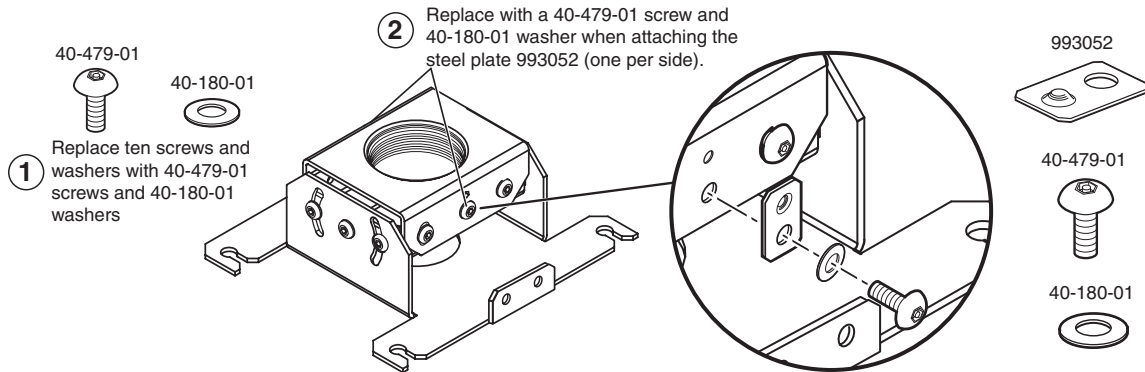

Figure 2 Steps 1-2 for installing security screws on the UPB 25 adapter plate
1. Using ten 40-479-01 screws and ten 40-180-01 black washers, replace all the existing screws, with the exception of the two center pivot screws located below the set screw access point (see figure 2, ①).
2. Attach one of the cover plates 993052, at the pivot point below the set screw access point (see figure 2, ②), replacing the original screw with a 40-479-01 screw and a 40-180-01 washer. Do not tighten these screws completely at this time. Repeat for the other side. The plates will hide the set screw access, with the protrusion fitting into the set screw hole.